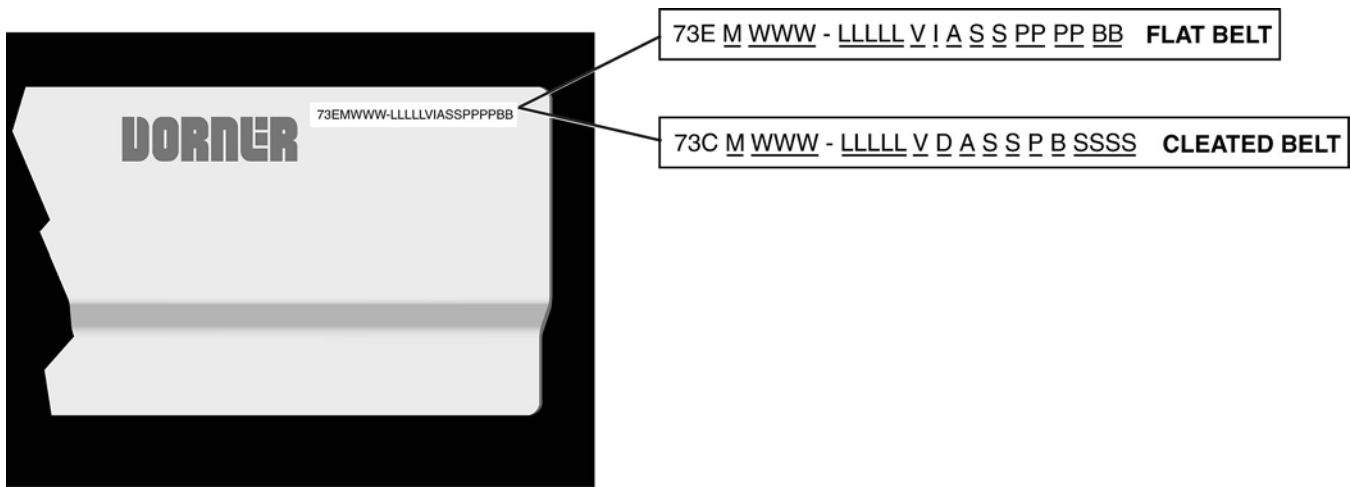

Figure 143
Refer to model number on the conveyor frame (Figure 143). From the model number determine the conveyor width (WWW), length (LLLLL) and belt type (BB). Use data to configure belt part number as indicated below. \*Add “V” for v-guided belts or add “VG” for 06, 08, 57, 59, and 64 v-guided belt types.
Refer to model number on the conveyor frame (Figure 143). From the model number determine the conveyor width (WWW), length (LLLLL), cleat type (B) and cleat spacing (SSSS). Use data to configure belt part number as indicated below. \*Add “V” for v-guided belts.